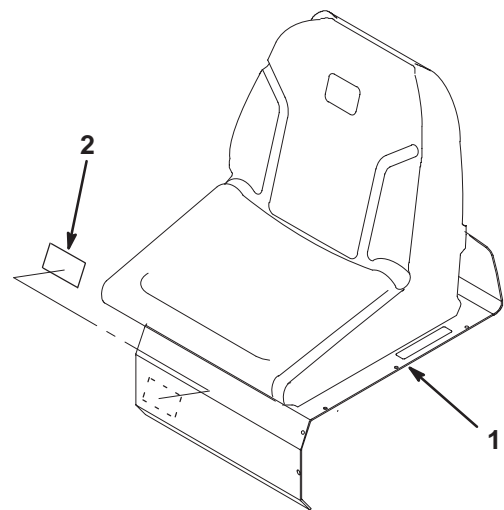
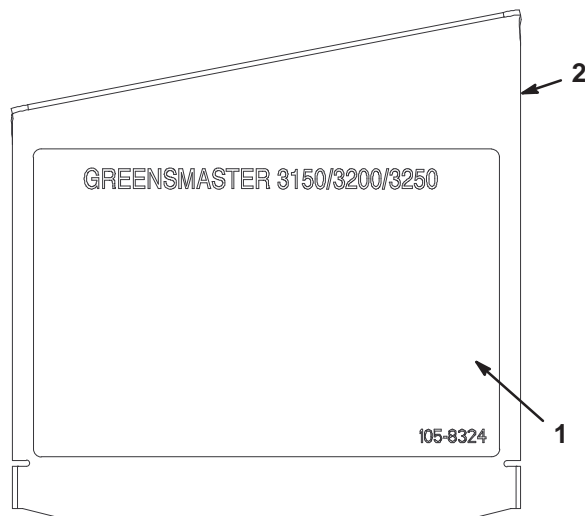

Figure 7
Figure 8
- 13.** On all models except 04357, affix the instruction decal to the underside of the seat support near the bottom right-hand side (Fig. 7). On model 04357, affix the instruction decal to the inside of the tool box cover as shown in Figure 8.